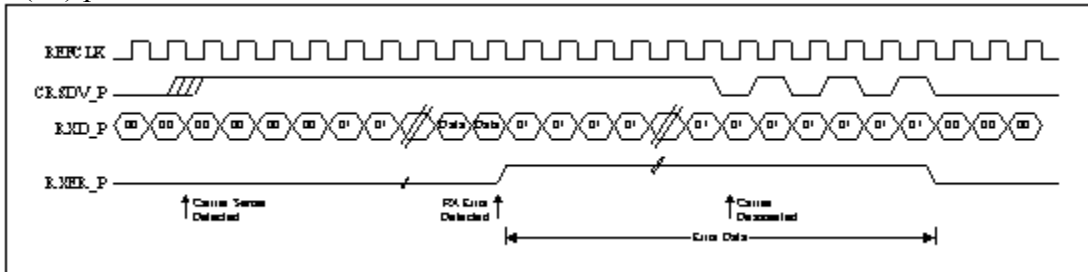

Figure 3-6 RMII Reception with Symbol Error
A receive symbol error event is shown in figure 3-6. The packet with the symbol error is treated as if it were a valid packet with the exception that all di-bits are substituted with the (01) pattern.